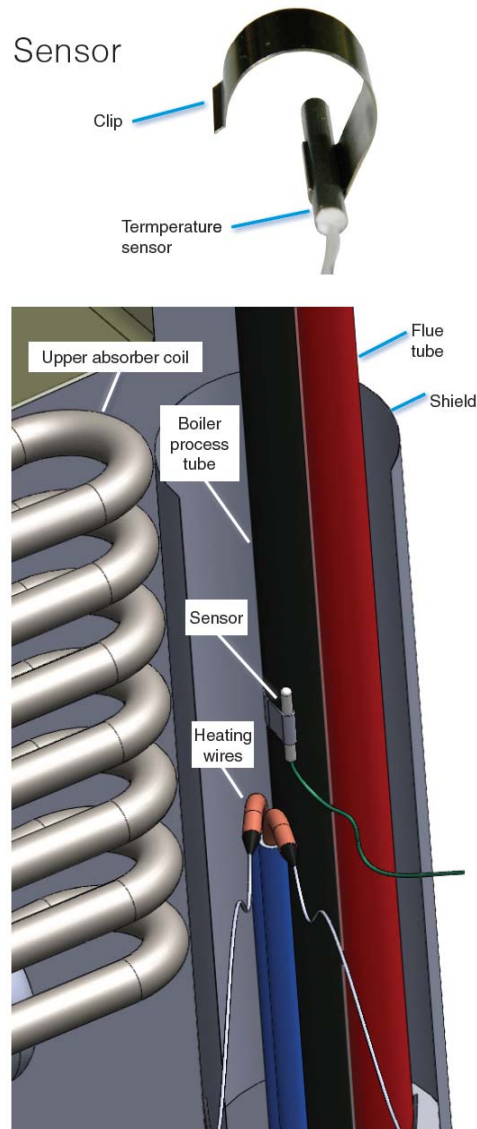

Fig 5 Install Temperature Sensor
The temperature sensor clips onto the boiler process tube. Fig. 5 shows a cutaway view of the boiler assembly and the RTD with clip.
process tube. Most Norcold refrigerators have a flue tube on the back of the boiler tube as viewed looking into the boiler housing. Dometic cooling units generally have the flue in front of the process tube. The location of the flue tube determines the RTD housing and clip alignment in step 5. As seen in Fig. 5, the RTD clip is aligned for a Dometic installation because the clip is to the left of the RTD as seen in this view. The Norcold clip is opposite; the clip would be to the right as seen in Fig. 6.
CAUTION Do not mount the RTD on the red flue tube as seen in Fig. 5, this will damage the RTD by overheating. Please see Auto Tuning section for further information.
5. Referencing Fig. 5, the RTD and clip are shown, where the RTD has been supper glued to the clip for ease of installation. Note that the wires exiting the RTD housing are aligned away from the center of the clip so that insulation can be placed between the boiler process tube and the RTD wires.
- The maximum height is below the upper absorber coil seen in Fig. 5.
Fig. 5 shows a typical Dometic installation of the ARP RTD. The red tube seen in this figure is the gas flue tube, make sure the RTD is not in contact with this tube, and the